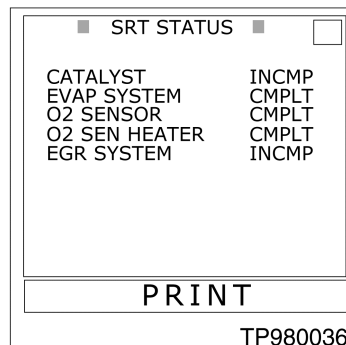

Figure 3
2. The screen will display the status of all SRT items for the vehicle being inspected (Figure 3).